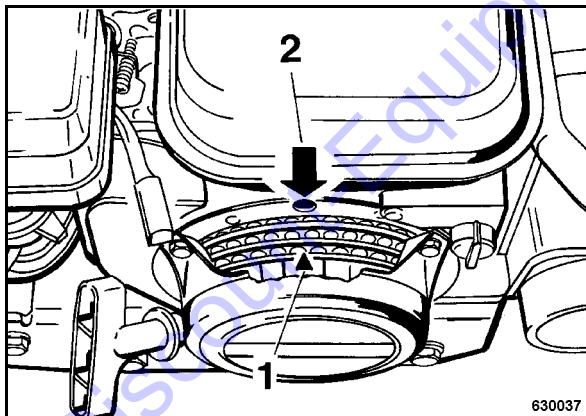

Fig. 59
- For this purpose align the alignment mark (1) (Fig. 59) on the starter disc to the top bore (2).